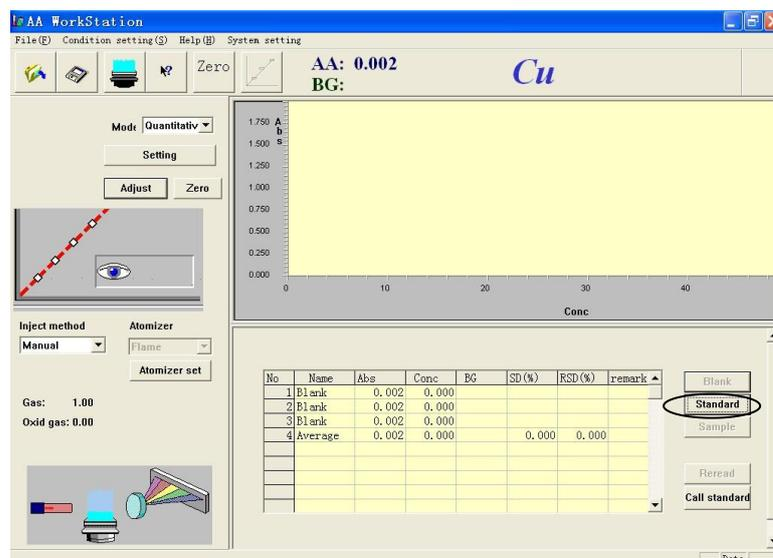

Figure 5-12
9. Spray and suck the standard sample blank for the second time. Press "Standard blank", and the screen will be shown as that in Figure 5-12. The standard blank testing is complete.